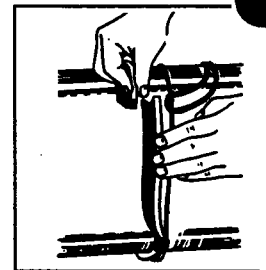

Figure 11
4. Place the V-ring seal around the shaft and stretch it so that the ends overlap slightly. Tie the string together to hold the V-ring seal in this position (Figure 11).